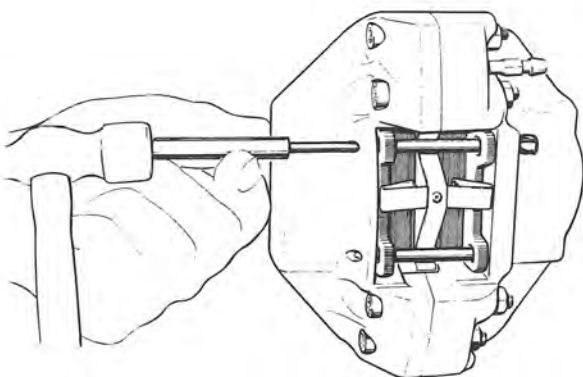

Fig. 5-14. Removing guide pin
3. Tap out the upper guide pin with a drift with diameter 2.5 mm ( $\frac{9}{64}$ " ), see Fig. 5-14. Take out the tensioning spring. Tap out the lower guide pin.